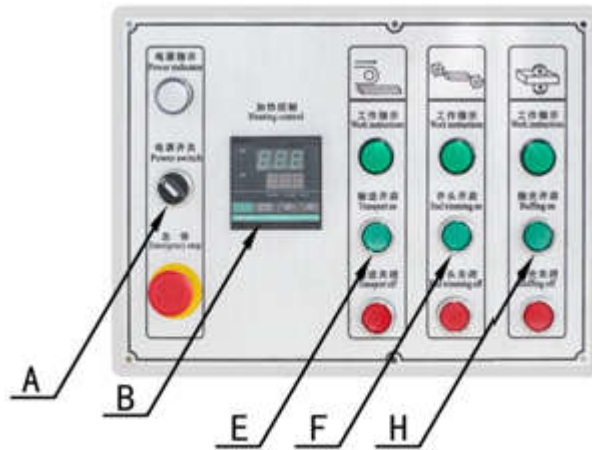

Figure 5
8.3 Control system (Figure 5):